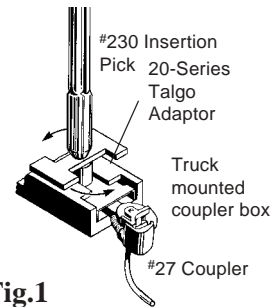

Fig.1
1. Assemble the #27 Coupler into the truck mounted coupler box according to the 20-Series instructions. Refer to "Conversion Instructions for TYCO and Life Like/Model Power" plus paragraph 5 in instructions. See Fig.1.